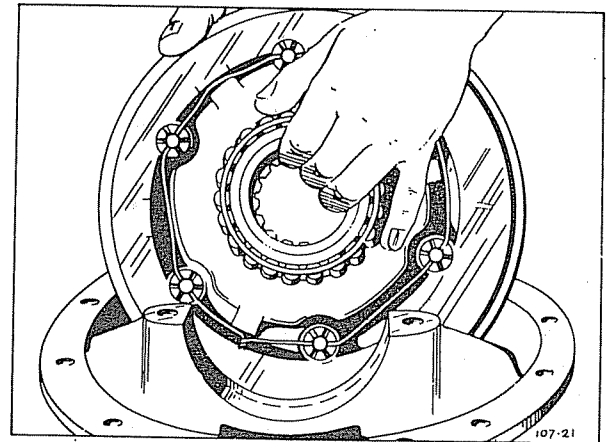

Fig. 42—Removing Differential from Carrier.
- (8) After removing bearing caps, tip up the left hand end of planetary unit and lift out as shown in Figure 42.